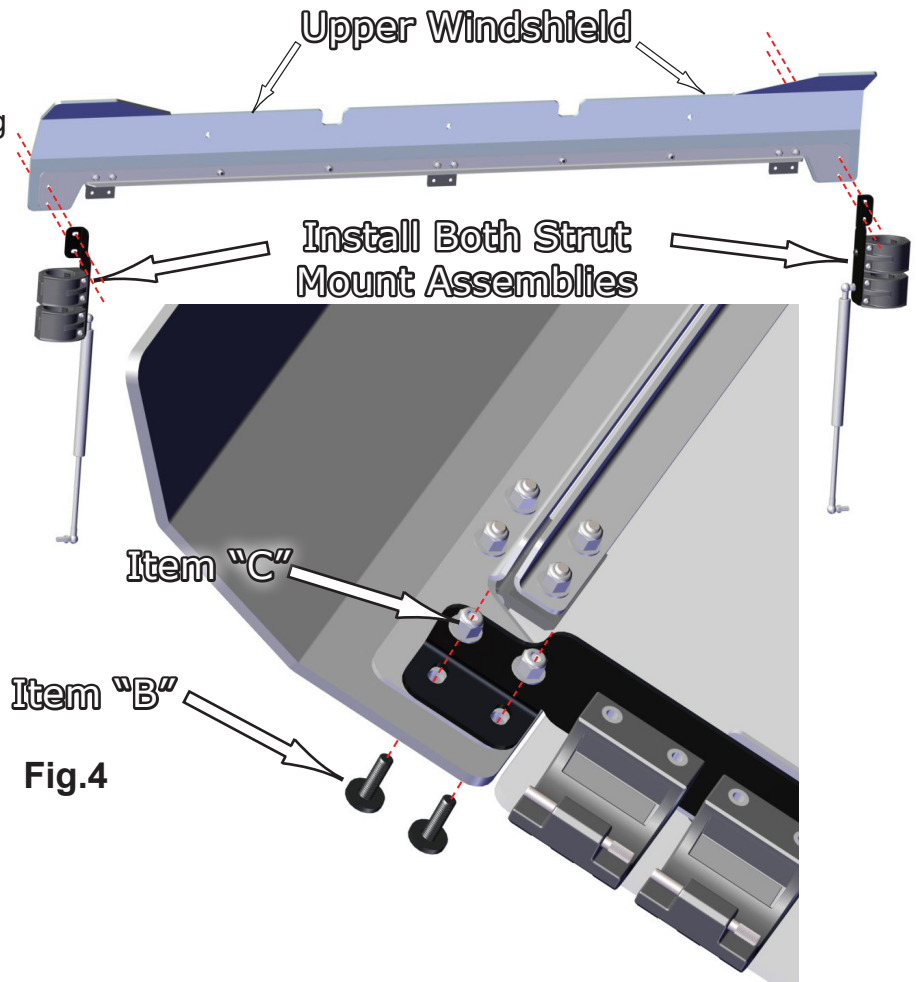

Fig.4
4. Now install both of the Strut Mount Assemblies included in your kit to the Upper Windshield section. You will attach them using the M6x25 Seal Washer Bolts, **Item "B"** and the M6 Nylock Nuts, **Item "C"** also provided in your kit. See **Fig.4**.